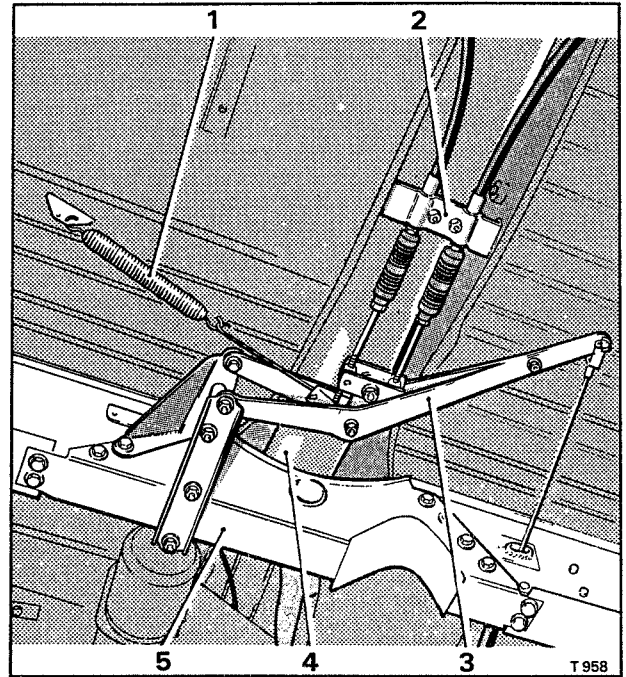

Fig. G37m Parking brake intermediate linkage (Right-hand drive cars)
2. At the intermediate linkage on the underside of the body, unhook the parking brake return spring from the operating lever. Remove the clevis pin attaching the front parking brake cable to the end of the lever (see Fig. G37m).